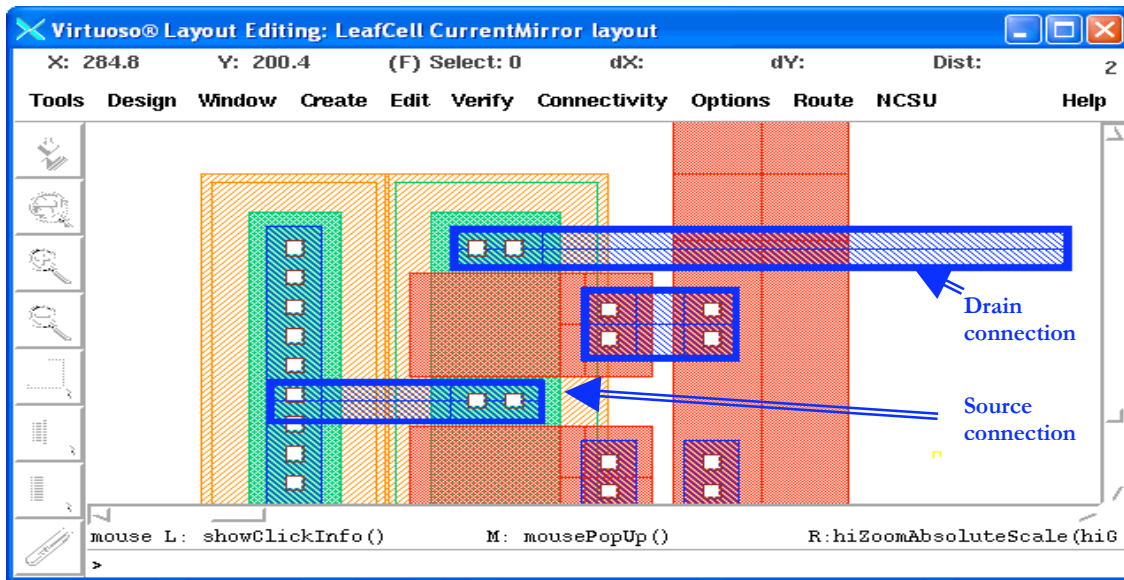

Figure 67: Connecting the Body to Source, Drain to Body.
5. Connect the *source* as well as *drain* using *path width* to be **3.2** (Figure 67). **Note:** For this connection, we use a narrower path width of **3.2** because if we still use width 6.4, it will overlap with the poly layers and violate the design rules of minimum separation between the same layers.